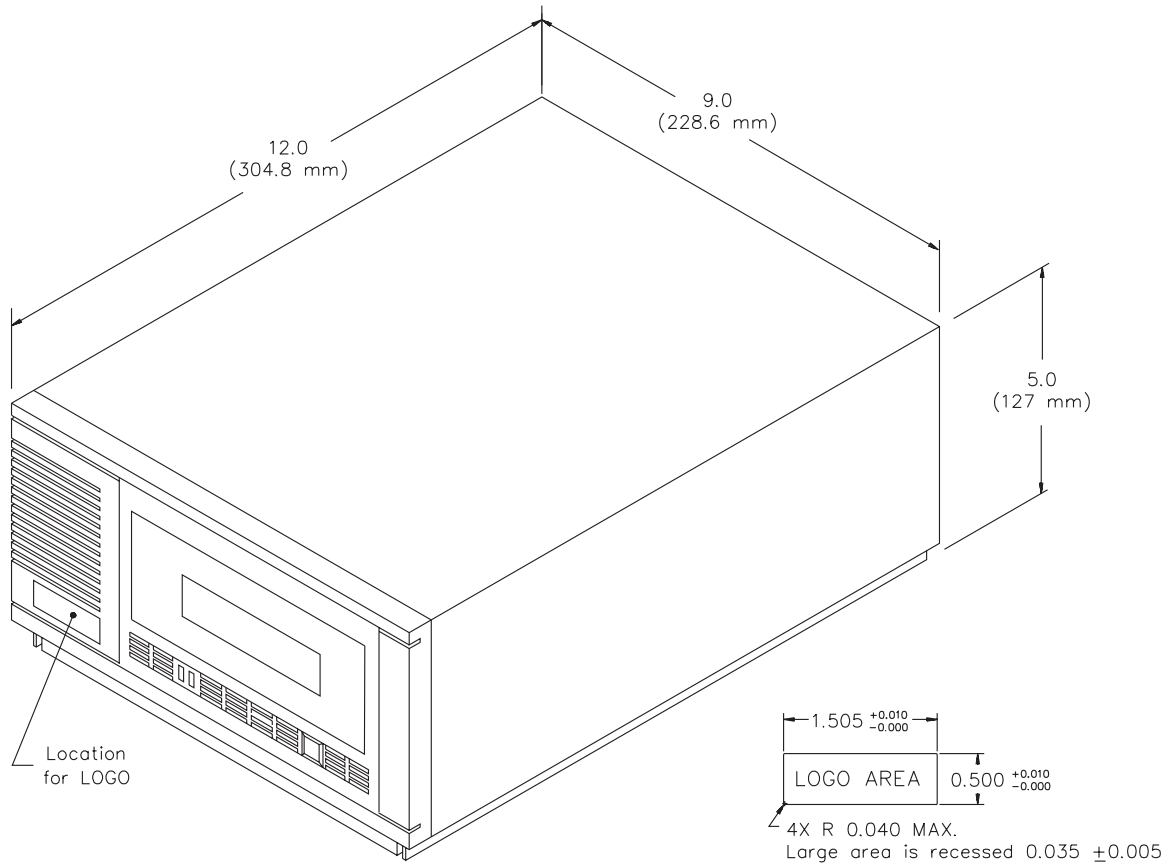

Figure 1-2 Dimensions and logo area of the Tabletop CTS (EXB-8200 shown)
- Figure 1-2** Dimensions and logo area of the Tabletop CTS (EXB-8200 shown) . . . . . 1-4
This section describes the size, weight, color, and logo area of the Tabletop CTS. Figure 1-2 shows the dimensions and logo area of the Tabletop CTS.
The Tabletop CTS is 5 inches high (127 mm) × 9 inches wide (228.6 mm) × 12 inches deep (304.8 mm), as shown in Figure 1-2.